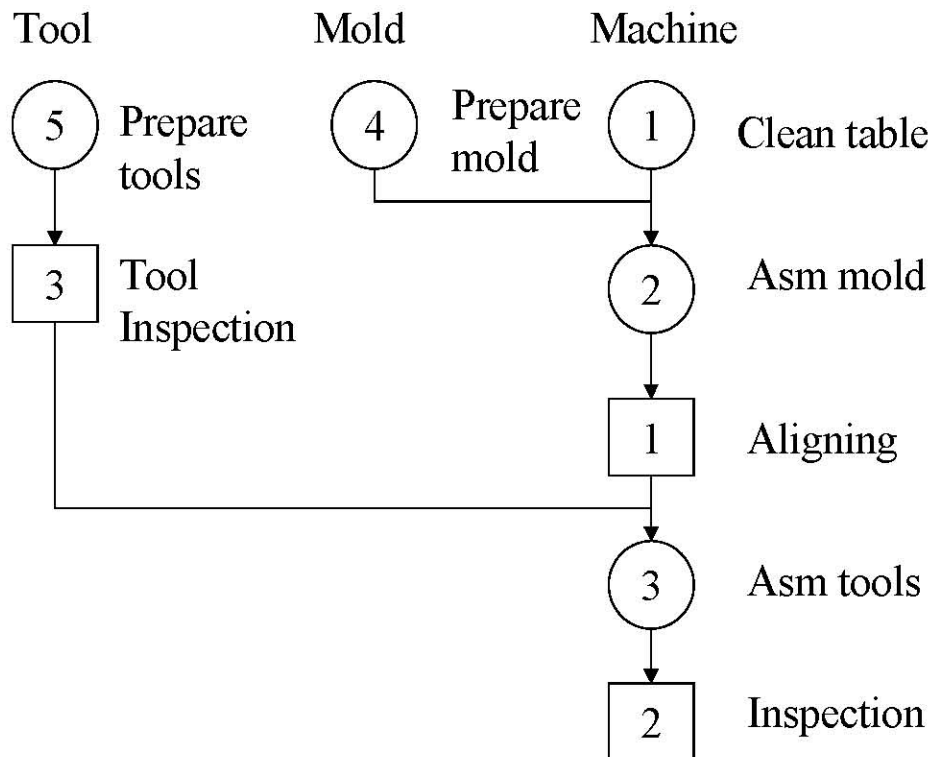

Figure 1: Operations Process Chart
2. *Record the entire process of the setup operation.* Operations process charts as shown in Figure 1 can be used to record setup operation processes. In operations process charts, operations and inspections are sequenced by time. Videotaping is also frequently applied to record the setup operations.